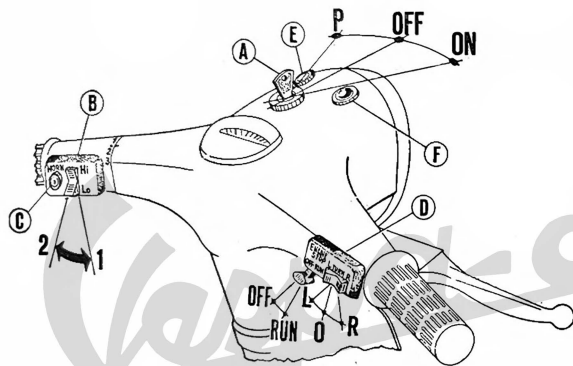

Fig. 1 - Switch positions.
Notice - When starting, with switch « A » ON (fig. 1), make sure that the lever of the switch « D » supplementary stop (fig. 1) is in position « RUN ».
*Notice - When starting, with switch « A » ON (fig. 1), make sure that the lever of the switch « D » supplementary stop (fig. 1) is in position « RUN ».*
*Notice - In case of emergency, if the engine is to be immediately cutout, act on the switch engine cutout « D » (Fig. 1) shifting the lever in the position « OFF ».*
The lighting of the indicator light «E» (fig. 1), that shows to the driver the **neutral position**, is controlled by a proper switch.